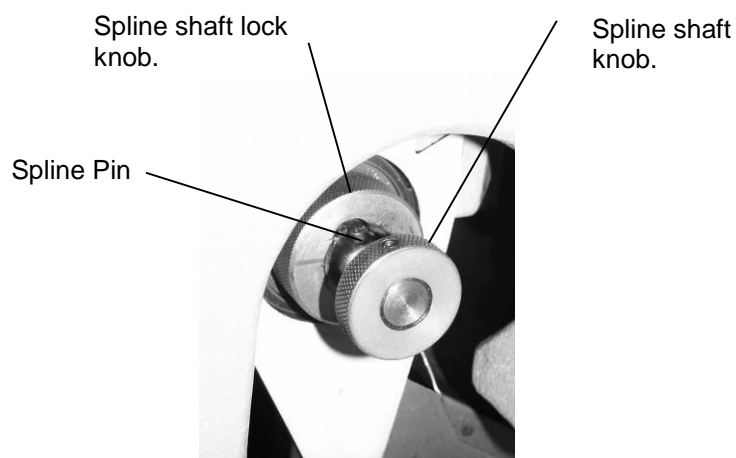
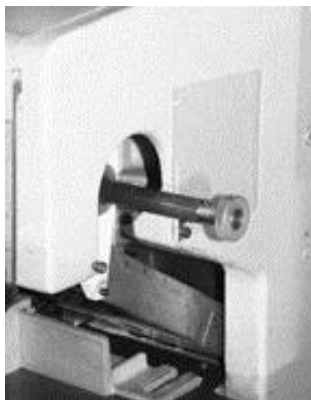

Figure 5
Figure 6
2. Rotate the spindle lock knob until the cut out in the knob aligns with the pin in the spline shaft and pull the shaft out. (See Figure 5 & Figure 6,below)
Insert the spline shaft through each head (you may have to rotate the spline to align it with the drill head gear) until it seats in the left hand spline bearing. The spline must go in far enough to enable the spline lock ring to secure the spline shaft pin. Insert the spline pin into the lock ring and rotate to lock. (See Figure 5, on page 15) Close and secure plastic cover.